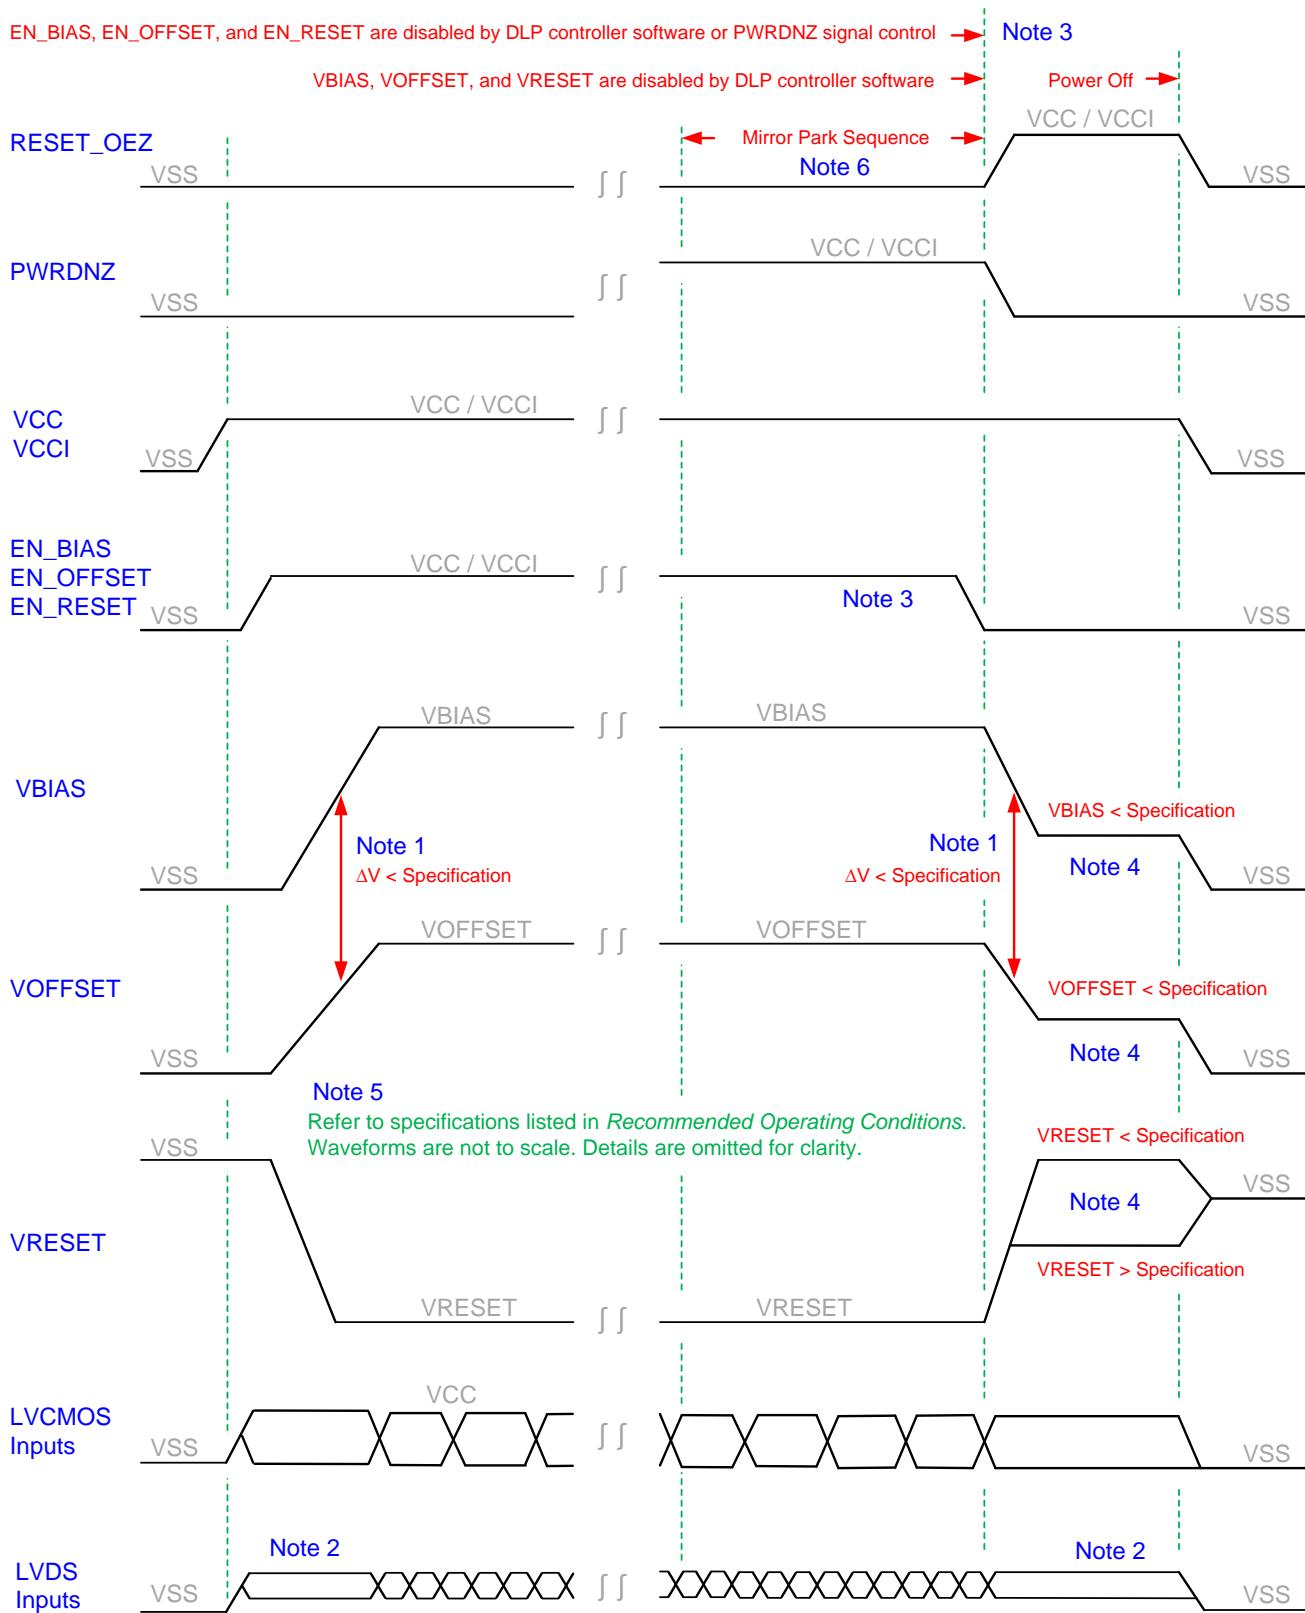

Figure 18. DMD Power Supply Sequencing Requirements
For reliable operation of the DMD, the following power supply sequencing requirements must be followed. Failure to adhere to the prescribed power-up and power-down procedures may affect device reliability. VCC, VCCI, VOFFSET, VBIAS, and VRESET power supplies have to be coordinated during power-up and power-down operations. VSS must also be connected. Failure to meet any of the below requirements will result in a significant reduction in the DMD's reliability and lifetime. Refer to Figure 18.
- Power supply slew rates during power-up are flexible, provided that the transient voltage levels follow the requirements listed in Absolute Maximum Ratings, in Recommended Operating Conditions, and in Figure 18.
- Power supply slew rates during power-down are flexible, provided that the transient voltage levels follow the requirements listed in Absolute Maximum Ratings, in Recommended Operating Conditions, and in Figure 18.